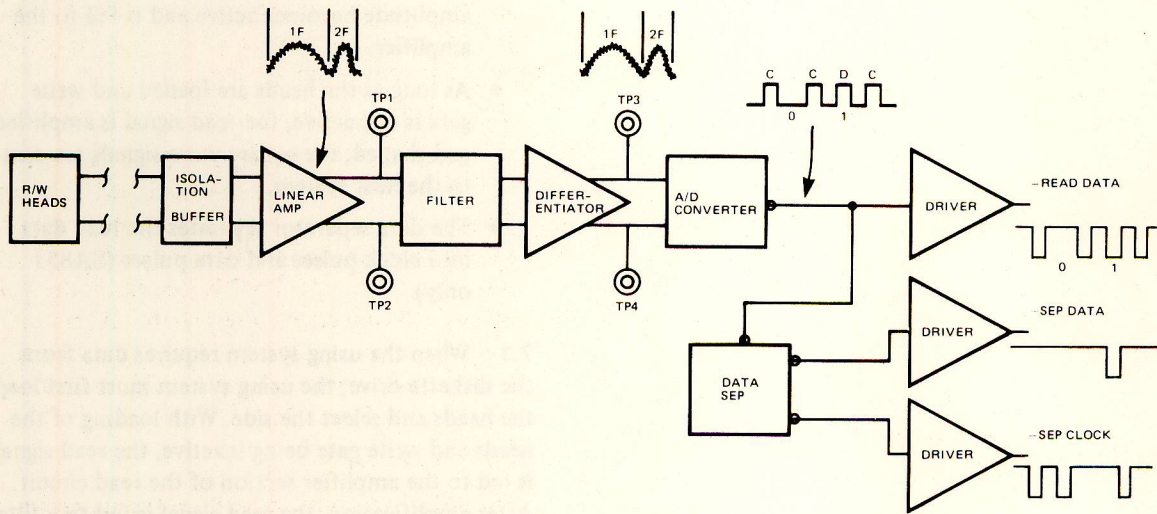

FIGURE 32 READ CIRCUIT FUNCTIONAL DIAGRAM
7.0 READ CIRCUIT OPERATION (Figure 32)